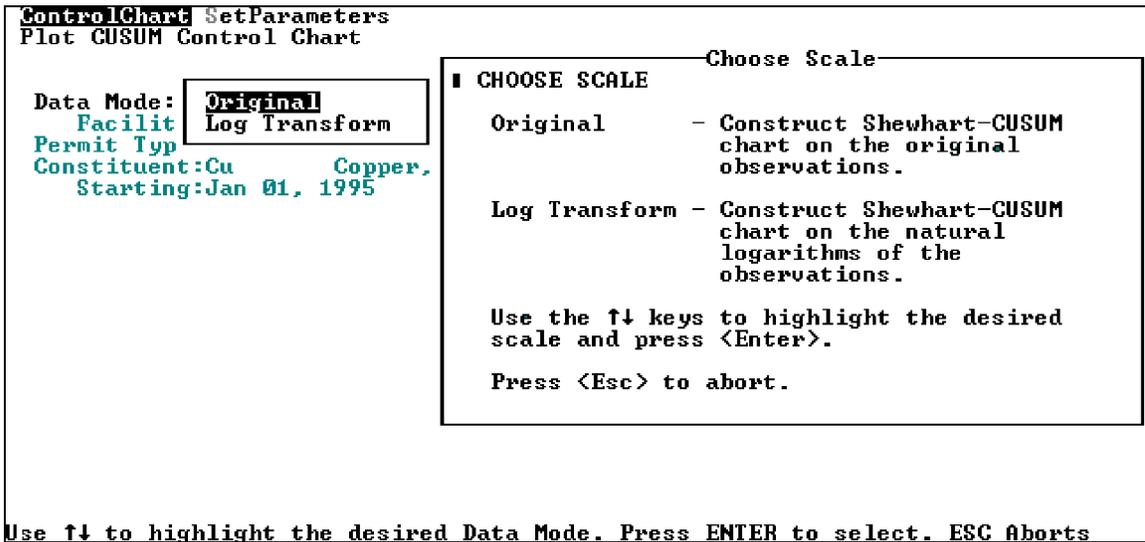

Figure 5-122. The Choose Scale dialog.
5. Use the up and down arrow keys to highlight the well to construct the Shewhart-CUSUM Chart on and press **<Enter>**. The Choose Scale dialog shown in Figure 5-122 appears on your screen.